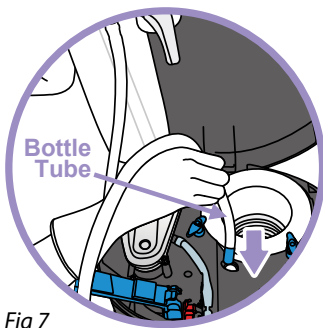

Fig 7
8. Wearing gloves, feed the new bottle tube through the hole indicated (Fig 7).